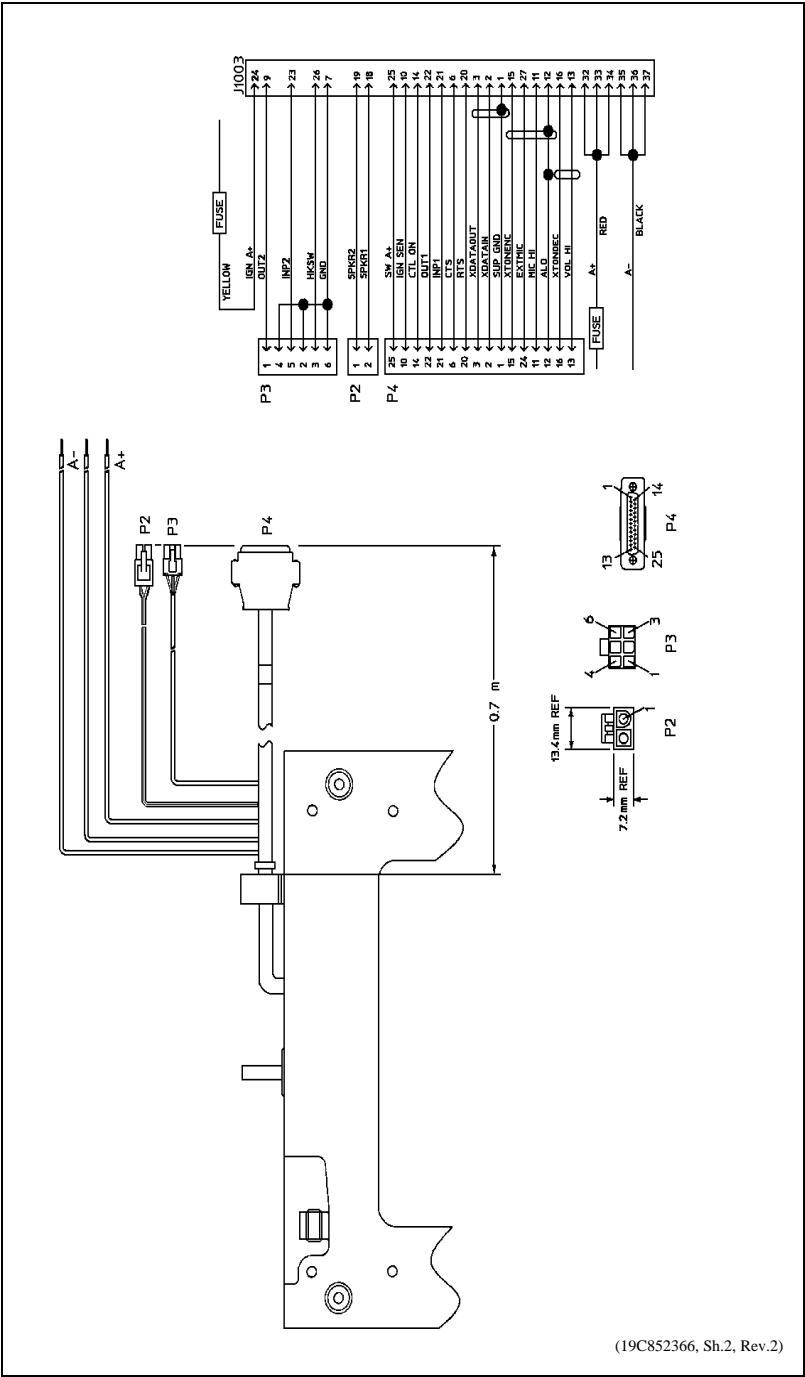

Figure 29 - Cassette Assembly Schematic Diagram
6. Connect the Power leads and the Ignition Sense leads as described in previous sections. See Figure 29.
7. Connect the speaker cable connector P2 to the speaker and the basic accessory connector P3 to the following options (if used, see Figure 29):
8. Connect the extended option accessory plug P4 to the following options (if used, see Figure 29):